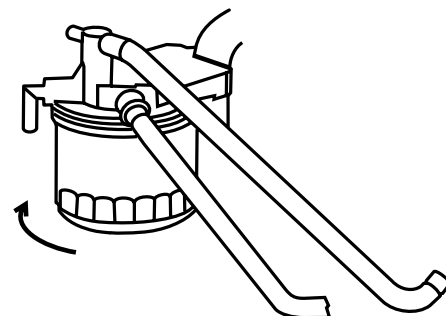

Figure 15. Fuel Filter
- Replace the engine fuel filter (Figure 15) every 800 hours. Refer to your engine manual for specific details to perform this operation.